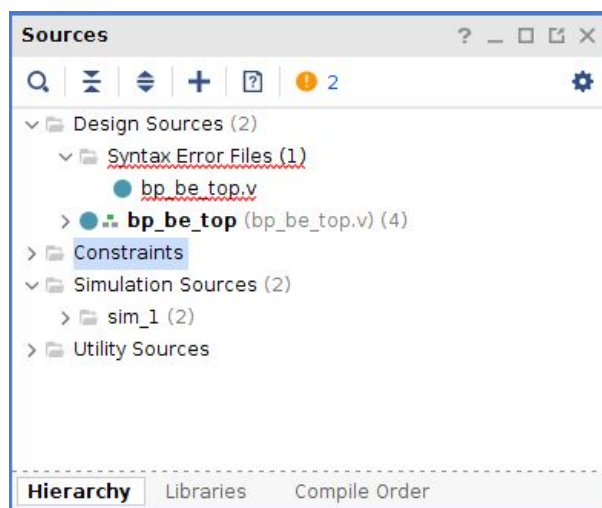

Fig. 2 Syntax error due to incorrect file type
- 6) Notice how adding a design file may cause a syntax error in Vivado (Fig. 2). That is because the file is written in SystemVerilog but has a file extension of .v. Vivado thinks that this is a Verilog file and doesn't understand the syntax. To